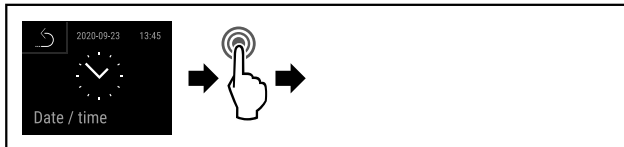

Fig. 105
- ▶ Complete steps (see Fig. 105) .